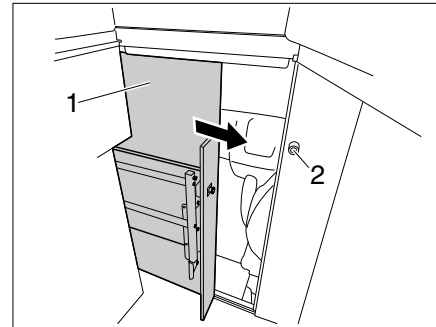

Fig. 61 Driver's cabin lock
▷ Only drive with the doors (Fig. 61,1) secured.
- Slide the door (Fig. 61,1) closed until it latches into the lock.
- Turn the handle (Fig. 61,2) anticlockwise until the door is locked.
- Turn the handle (Fig. 61,2) clockwise until the door is unlocked.
- Slide open the door (Fig. 61,1) and secure it.